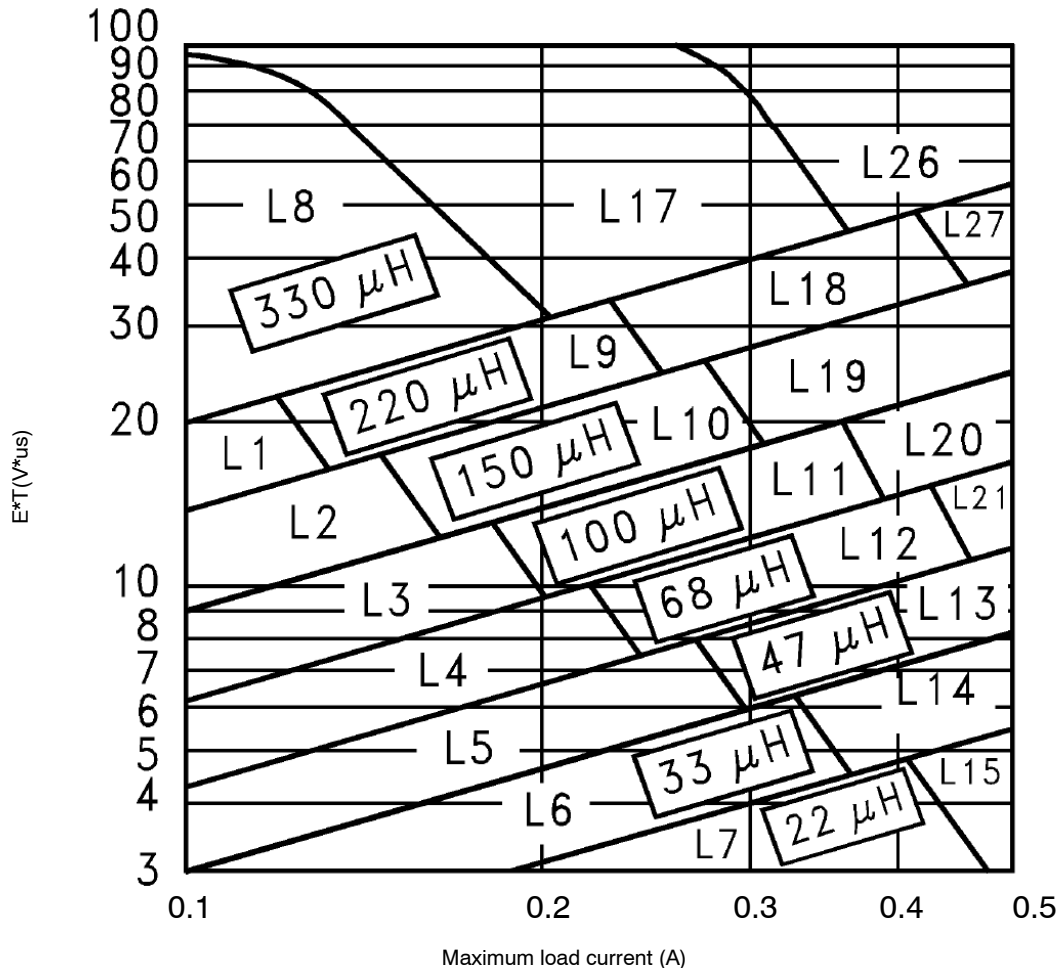

Figure 19. Inductor Value Selection Guides (For Continuous Mode Operation)
<p>4. Inductor Selection (L1)</p> <p>A. Use the following formula to calculate the inductor Volt x microsecond [V x μs] constant:</p> $E \times T = (V_{IN} - V_{OUT} - V_{SAT}) \times \frac{V_{OUT} + V_D}{V_{IN} - V_{SAT} + V_D} \times \frac{1000}{150 \text{ kHz}} (V \times \mu s)$ <p>B. Match the calculated E x T value with the corresponding number on the vertical axis of the Inductor Value Selection Guide shown in Figure 19. This E x T constant is a measure of the energy handling capability of an inductor and is dependent upon the type of core, the core area, the number of turns, and the duty cycle.</p> <p>C. Next step is to identify the inductance region intersected by the E x T value and the maximum load current value on the horizontal axis shown in Figure 19.</p> <p>D. Select an appropriate inductor from Table 3. The inductor chosen must be rated for a switching frequency of 150 kHz and for a current rating of 1.15 x I_{Load}. The inductor current rating can also be determined by calculating the inductor peak current:</p> $I_{p(max)} = I_{Load(max)} + \frac{(V_{in} - V_{out}) t_{on}}{2L}$ <p>where t_{on} is the "on" time of the power switch and</p> $t_{on} = \frac{V_{out}}{V_{in}} \times \frac{1.0}{f_{osc}}$	<p>4. Inductor Selection (L1)</p> <p>A. Calculate E x T [V x μs] constant:</p> $E \times T = (12 - 5 - 1.0) \times \frac{5 + 0.5}{12 - 1 + 0.5} \times \frac{1000}{150 \text{ kHz}} (V \times \mu s)$ $E \times T = (6) \times \frac{5.5}{11.5} \times 6.7 (V \times \mu s)$ <p>B. E x T = 19.2 [V x μs]</p> <p>C. I_{Load(max)} = 0.5 A Inductance Region = L20</p> <p>D. Proper inductor value = 100 μH Choose the inductor from Table 3.</p>
To simplify the inductor selection process, an inductor selection guide for the LM2594 regulator was added to this data sheet (Figure 19). This guide assumes that the regulator is operating in the continuous mode, and selects an inductor that will allow a peak-to-peak inductor ripple current to be a certain percentage of the maximum design load current. This percentage is allowed to change as different design load currents are selected. For light loads (less than approximately 300 mA) it may be desirable to operate the regulator in the discontinuous mode, because the inductor value and size can be kept relatively low. Consequently, the percentage of inductor peak-to-peak current increases. This discontinuous mode of operation is perfectly acceptable for this type of switching converter. Any buck regulator will be forced to enter discontinuous mode if the load current is light enough.